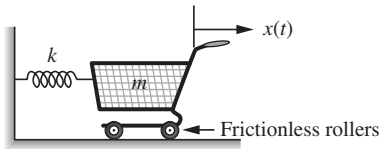

Figure P6.11 A spring-mass system for problem P6-11.
- 6-13.** The position of a spring-mass system shown in Fig. P6.11 is given by $x(t) = 4 \sin\left(\pi t + \frac{\pi}{8}\right)$ cm.
- 6-14.** The position of a spring-mass system shown in Fig. P6.11 is given by $x(t) = 10 \sin\left(4\pi t - \frac{\pi}{2}\right)$ cm.
- 6-15.** The position of a spring-mass system shown in Fig. P6.11 is given by $x(t) = 5 \cos(10\pi t)$ cm.